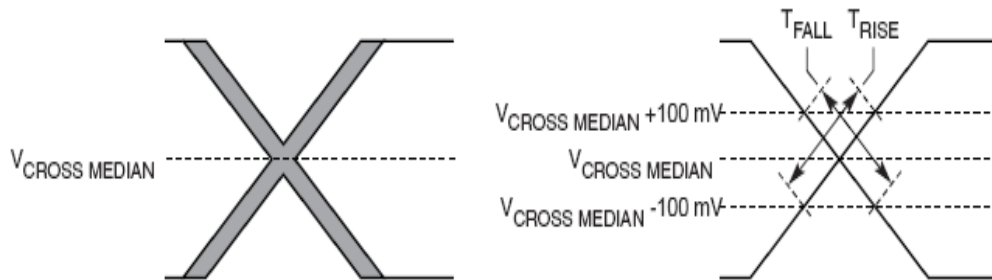

Figure 49. Single-ended measurement points for rise and fall time matching
- Matching applies to rising edge for SDn_REF_CLK and falling edge rate for $\overline{\text{SDn_REF_CLK}}$. It is measured using a 200 mV window centered on the median cross point where SDn_REF_CLK rising meets $\overline{\text{SDn_REF_CLK}}$ falling. The median cross point is used to calculate the voltage thresholds that the oscilloscope uses for the edge rate calculations. The rise edge rate of SDn_REF_CLK must be compared to the fall edge rate of $\overline{\text{SDn_REF_CLK}}$, the maximum allowed difference should not exceed 20% of the slowest edge rate. See Figure 49.